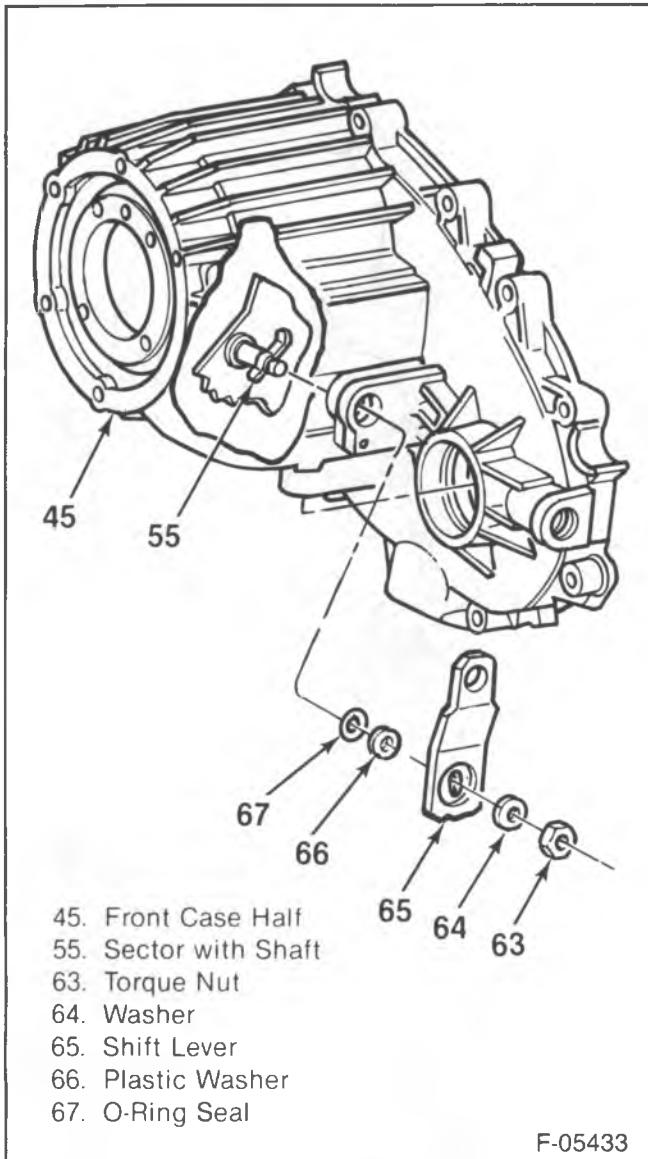

Figure 13—Sector with Shaft
Assemble (Figures 13, 14, and 15)
- Bolts (43) to 19 N·m (14 ft. lbs.).
6. Sector with shaft (55) into the front case half (45).
7. Shift lever O-ring (67), plastic washer (66), shift lever (65), washer (64), and nut (63) to the front case half (figure 13).